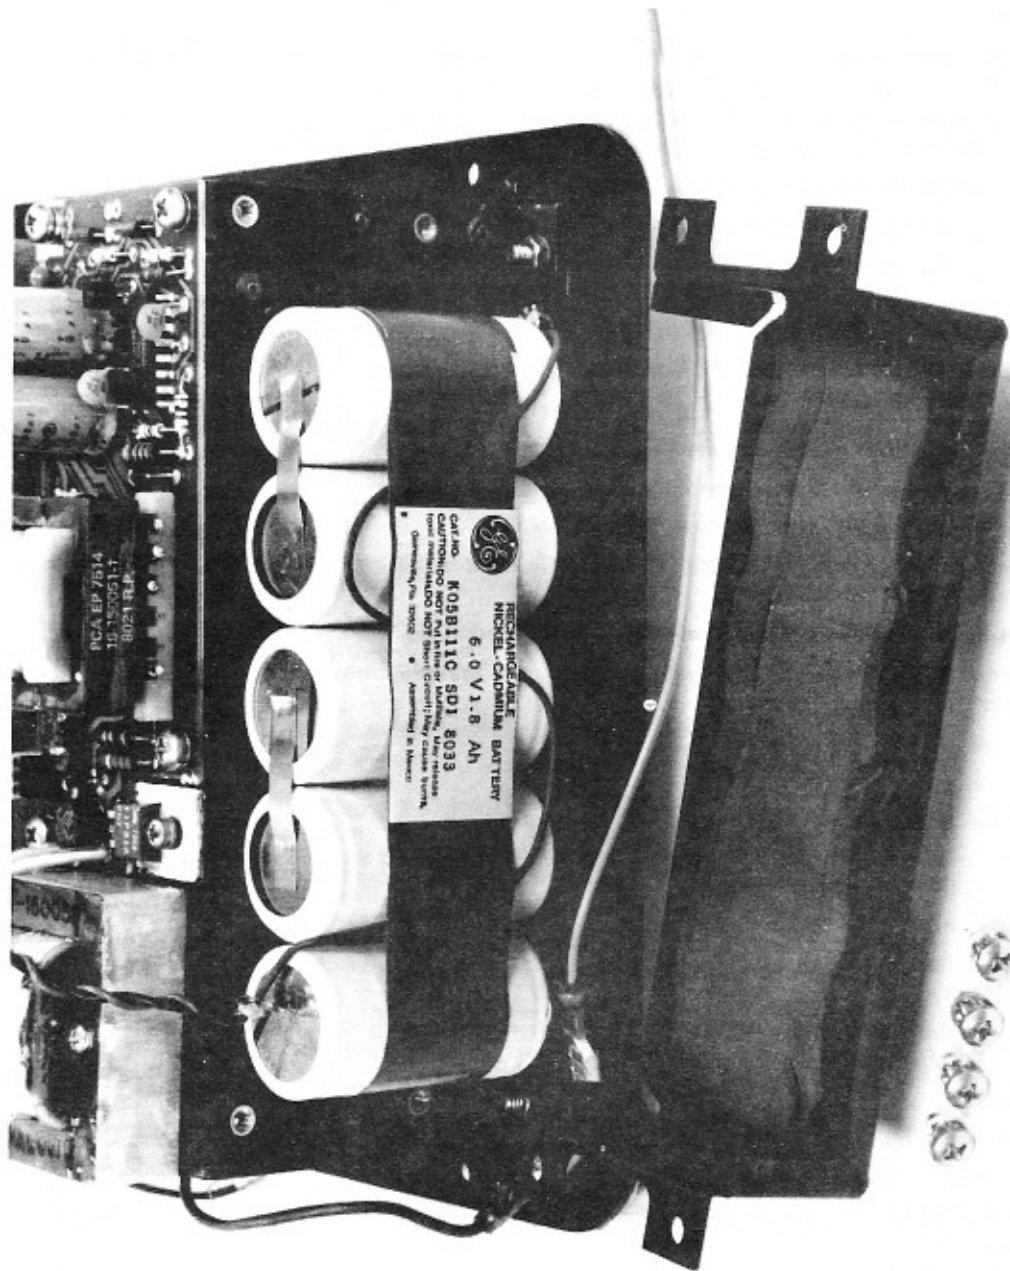

Figure 4-1. Battery Pack Replacement
4.3.2 Battery Pack Replacement (Refer to Figure 4-1)